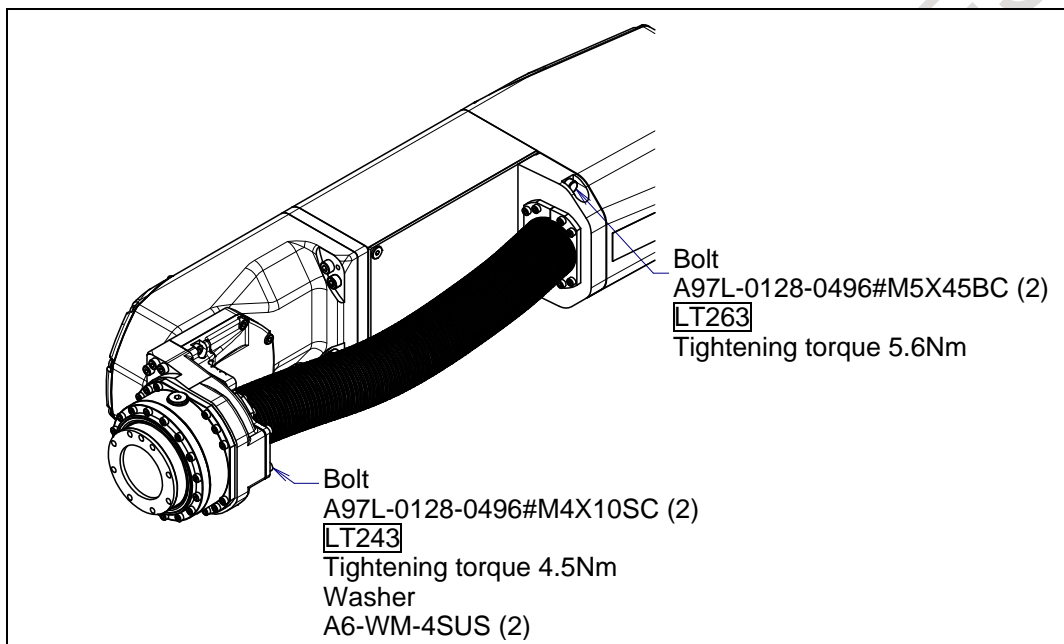

Fig. 6.21 (a) Replacing No dust M/H conduit (1/3)
- 2 Remove M4 x 10 bolts (2 pcs) and M5 x 45 bolts (2 pcs) in Fig. 6.21 (a) and remove unit of M/H conduit.
- 3 Attach new No dust M/H conduit applying reverse sequence. In this time, according to Fig. 6.21 (a) apply LOCTITE 243 and 263 to internal thread and tighten by regulated torque.